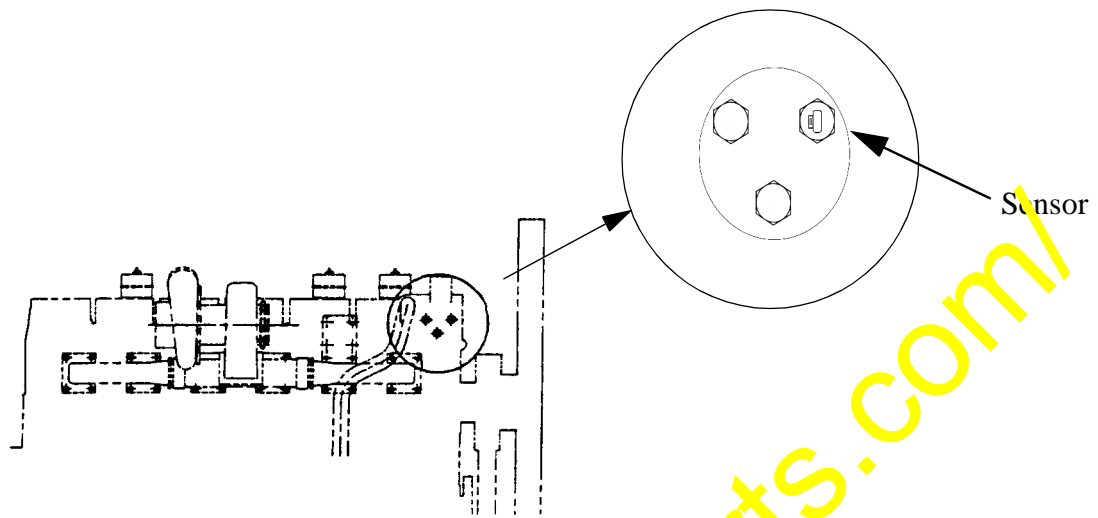

Figure 1 Water Temperature Sensor Location
1. As shown in Figure 1, locate the water temperature sensor.